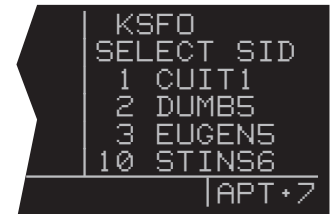

Figure 6-32
2. If not already displayed, rotate the right inner knob until the APT 7 page appears as in figure 6-32. This will allow the selection of SID procedures.